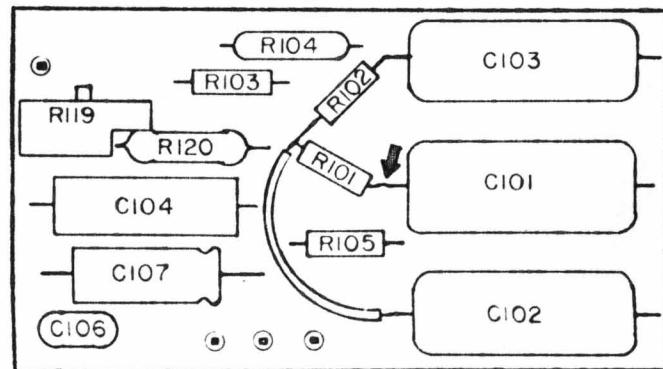

Figure 5-4. Input Circuit Board
- Connect a $10 \text{ M}\Omega$ resistor in series with oscilloscope vertical input. Using a clip lead, connect resistor to junction of R101 and C101 (input circuit board, Figure 5-4). Connect oscilloscope common to 412A COM lead. Set Vertical Sensitivity to 0.2 V/cm.